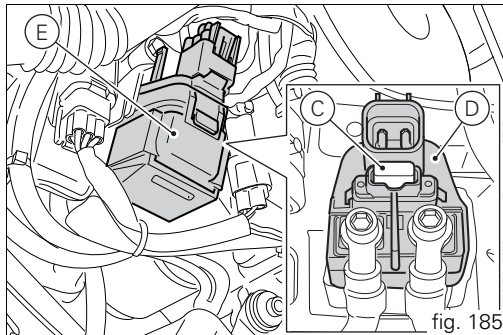

fig. 185
Electronic rectifier, protected by a 30A fuse (C, fig. 185) located on the solenoid starter, under the battery.
The main fuse (C, fig. 185) is positioned next to the battery, on the solenoid starter (D). Remove the fuse cap (E) to reach it.